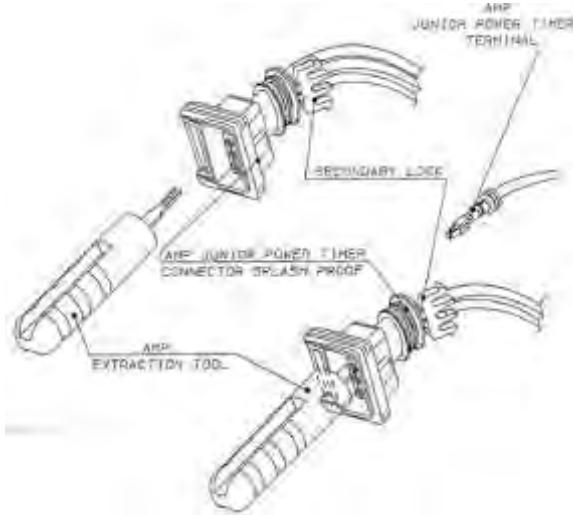

Figure 95
c. Hold mating face of connector toward you and determine location of latching mechanism in the appropriate connector cavity as shown in Figure 95.